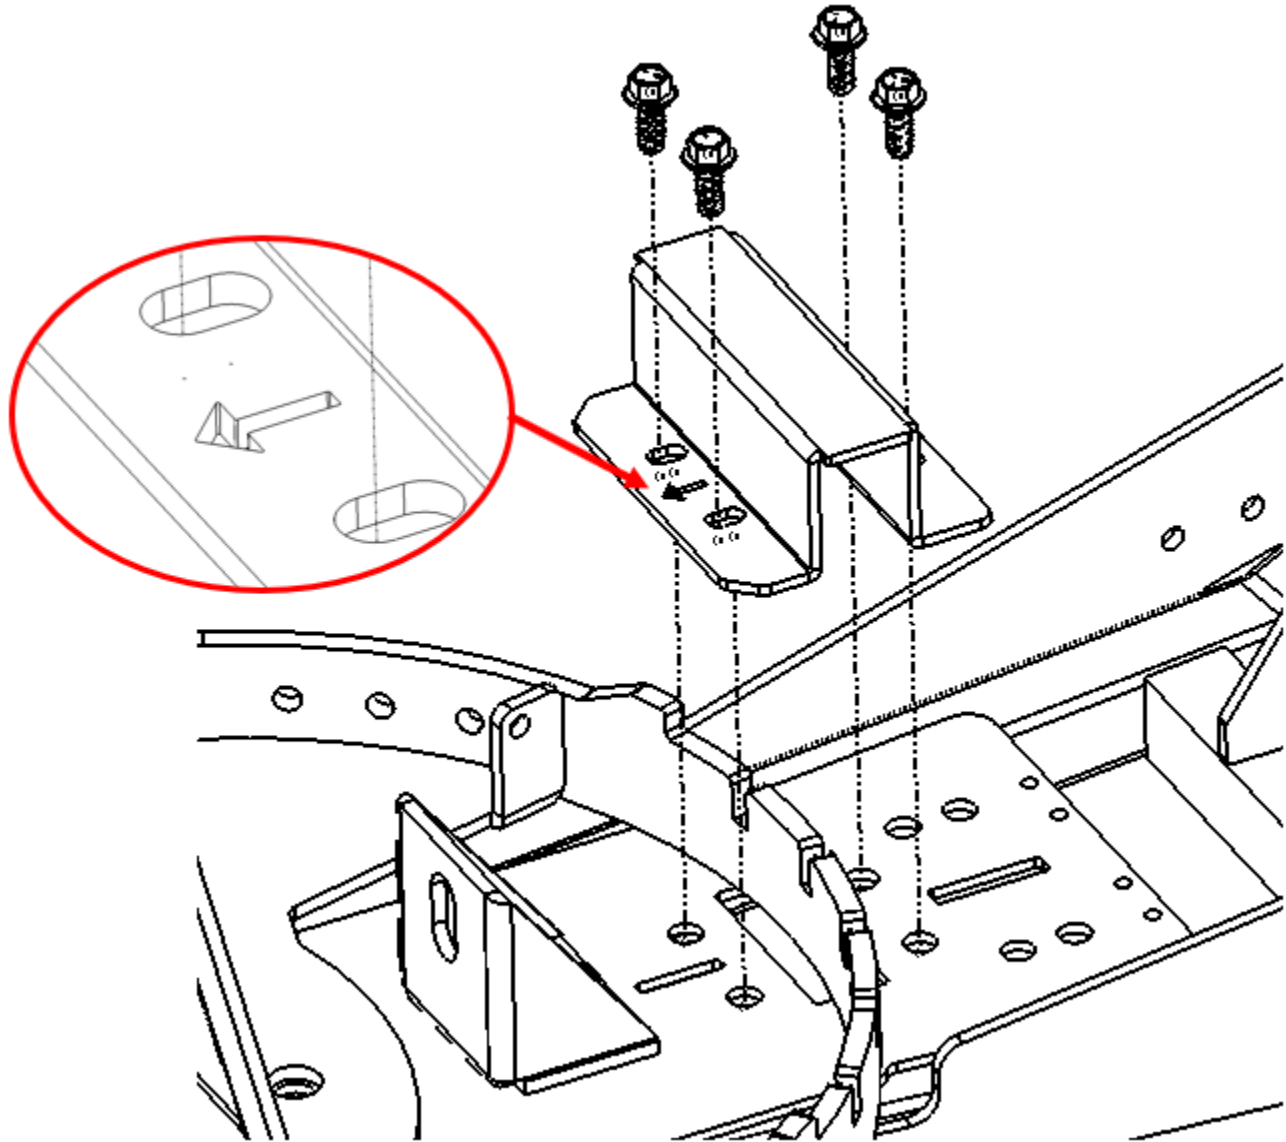

Figure 3
- 3) Replace the Pivot Lever Support Bracket with the Hard Stop Bracket included in the DENALI Hydraulic Turn Kit. Use the four 3/8"-16 x 1 1/4" Serrated Flange Bolts to secure the bracket with the arrow toward the front of the plow system as shown in Figure 3.